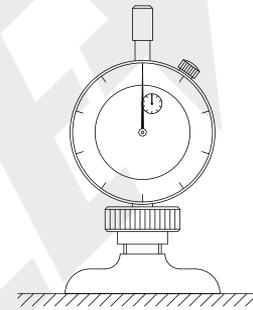

Fig.2
---Clean the measured surface and surface plate with soft cloth. Put base plane on the surface plate (Fig.2), make the long pointer point the zero through adjusting the indicator's vertical position or rotate the bezel, measure it several times to make sure that it is properly zero set.